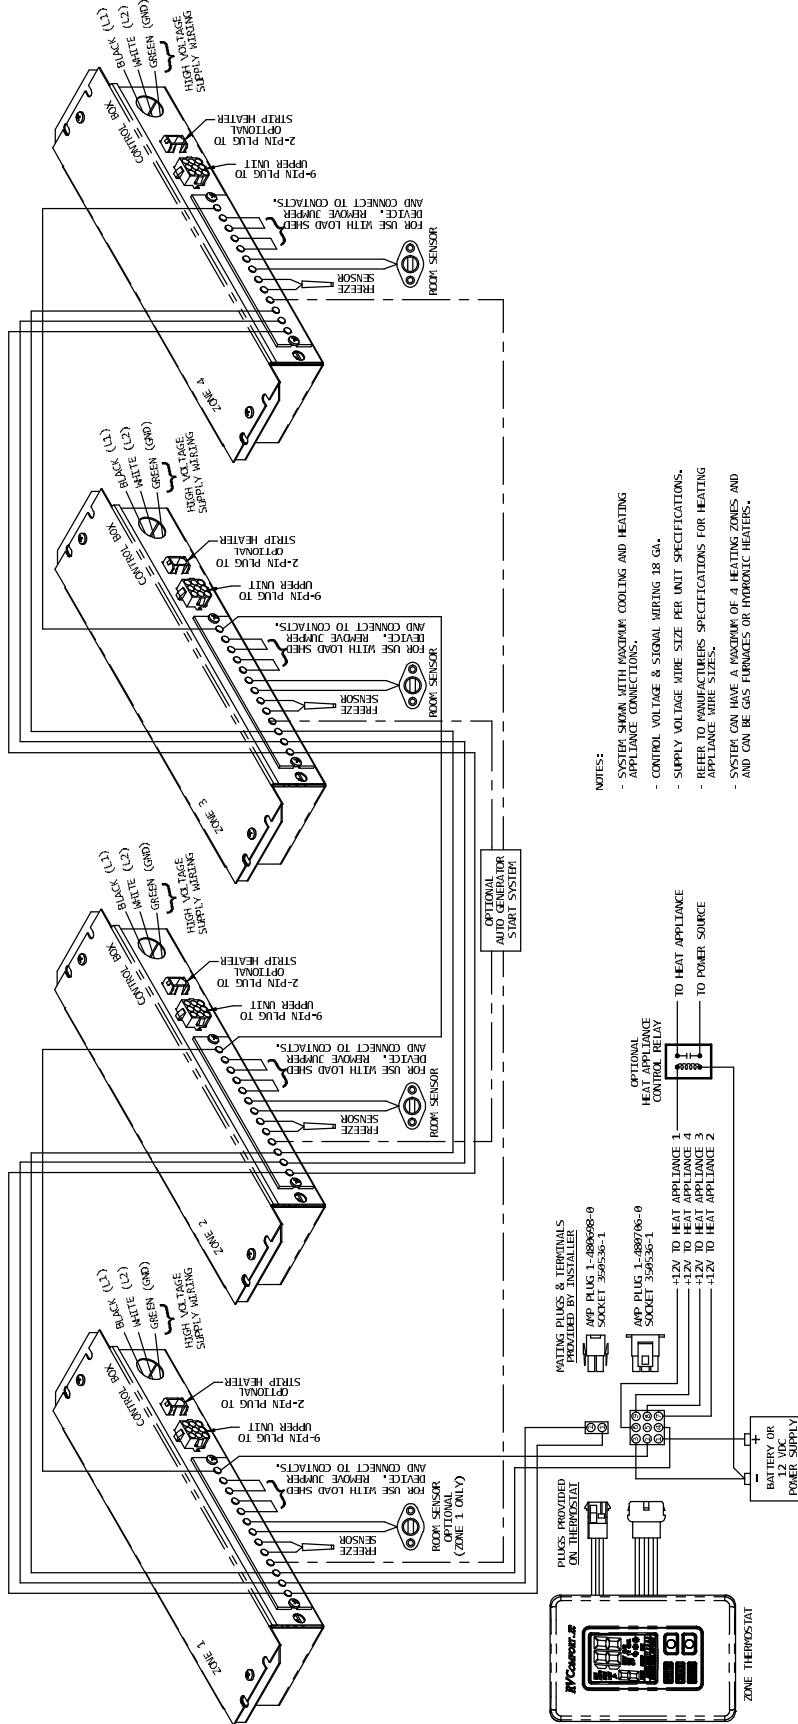

FIGURE 5
- (2) Any color for heat load shed (optional)
- B. See Figure 5 for wiring requirements for multiple zones.
Zone 2 is wired in by jumpering from Sig 1, Sig 2, B- and R+ on Zone 1 box to Zone 2 box. Zone 3 is wired in by jumpering from Sig 1, Sig 2, B- and R+ on Zone 2 box to Zone 3 box. Zone 4 is wired in by jumpering from Sig 1, Sig 2, B- and R+ on Zone 3 box to Zone 4 box (See Figure 5).